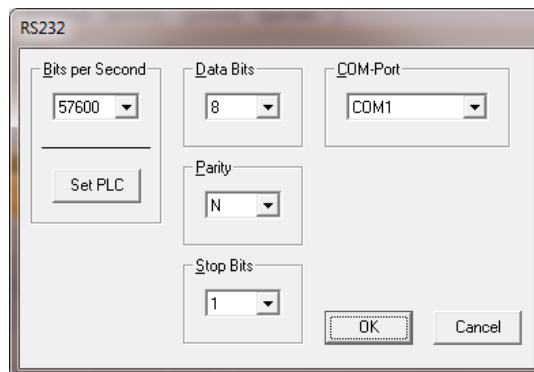

Figure 3. COM Port Selection
- (c) If the cable is connected directly to a serial connector, COM 1 should be the default port. If a USB to Serial converter is used, the COM port may vary, possibly COM 4 or 5. The Com port can be changed or verified by clicking interface in the toolbar and selecting RS232. This will cause a new window to appear. See **Figure 3**.